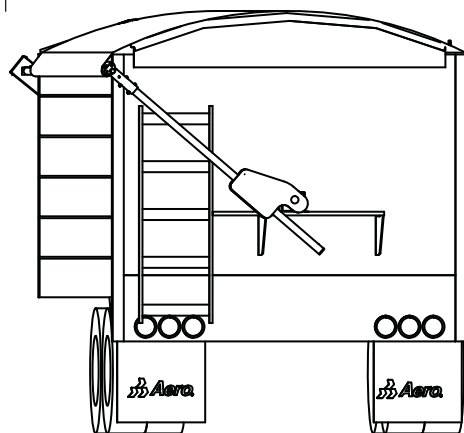

Figure 45
- 3) See Figures 45 & 46. Remove bottom collar insert swing arm assembly through the spring assembly.
- 4) See Figure 45 & 46. Place collar back on bottom of swing arm.